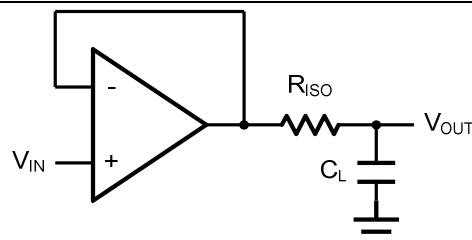
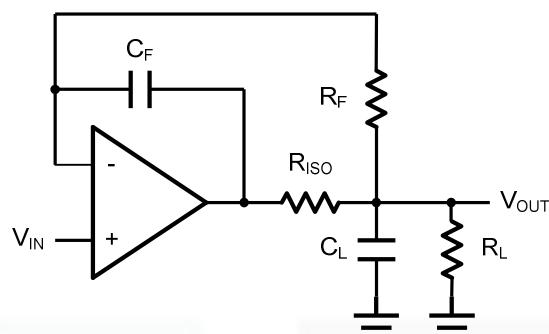

Figure 2. Indirectly Driving a Capacitive Load Using Isolation Resistor
Figure 3. Indirectly Driving a Capacitive Load with DC Accuracy
The GS863x family is optimized for bandwidth and speed, not for driving capacitive loads. Output capacitance will create a pole in the amplifier's feedback path, leading to excessive peaking and potential oscillation. If dealing with load capacitance is a requirement of the application, the two strategies to consider are (1) using a small resistor in series with the amplifier's output and the load capacitance and (2) reducing the bandwidth of the amplifier's feedback loop by increasing the overall noise gain. Figure 2. shows a unity gain follower using the series resistor strategy. The resistor isolates the output from the capacitance and, more importantly, creates a zero in the feedback path that compensates for the pole created by the output capacitance.
The circuit in Figure 3 is an improvement to the one in Figure 2. RF provides the DC accuracy by feed-forward the VIN to RL. CF